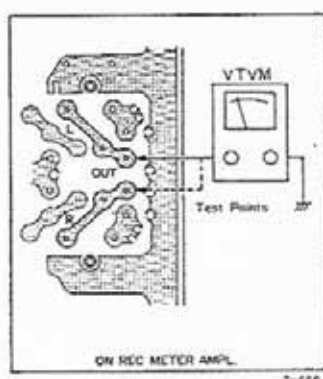

Fig. 8-7 Bias Trap Test Point
2. Connect a VTVM or oscilloscope from ground to the junction of L-302 and C-312 (L-ch) and from ground to the junction of L-304 and C-330 (R-ch). See Fig. 8-7.